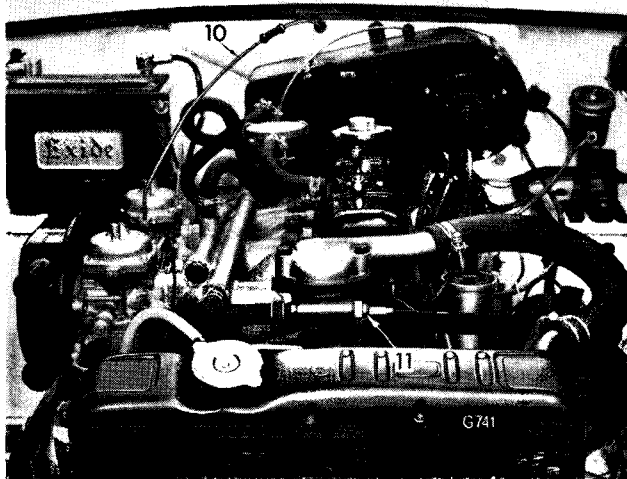

Fig. 82. Front view of engine
Disconnect the starter motor lead and the earth lead from the left-hand side of the front engine bearer plate. Referring to Fig. 82, release the choke control cable (10) and temperature transmitter electrical connection (11).